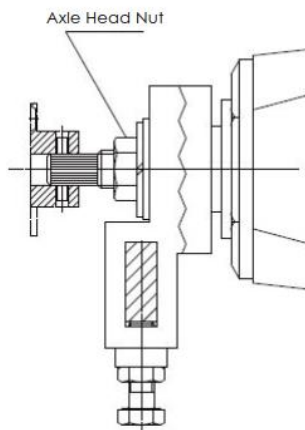

Figure 9 Balance Bar Installation
6.3.4 Insert the balance bar (mechanism) into the square hole of the jaw joint, tighten the top wire to fix the balance bar, loosen the shaft nut, adjust the jaw bond to make the balance bar and the ball connection rod in the same plane, and then the shaft head The nut is tightened, the position of the counterweight is moved, the balance is adjusted to the best condition, and the counterweight is fixed. For liquids of different densities, the buoyancy of the float is different, and the position of the counterweight on the balance bar can be adjusted to achieve the measurement purpose, as shown in Figure 9.